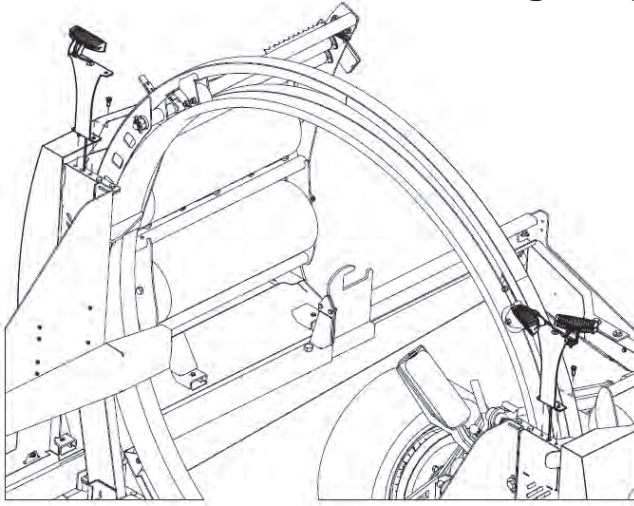

Fig. 1
1. Install left side on top of left safety guard mount with provided hardware. See Fig. 1.